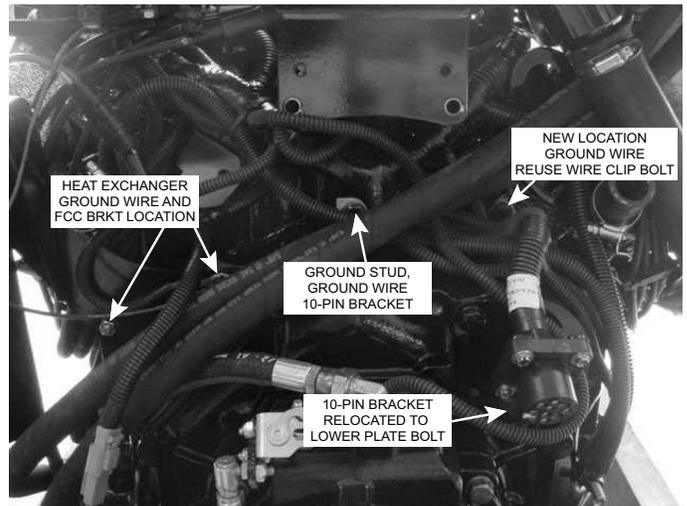

Figure 1-13 FCC Bracket and Ground Locations
25. Remove the upper engine port side bell housing bolt and lock washer. There will be a ground wire attached at this point. Discard the bolt and lock washer. Refer to Figure 1-13.